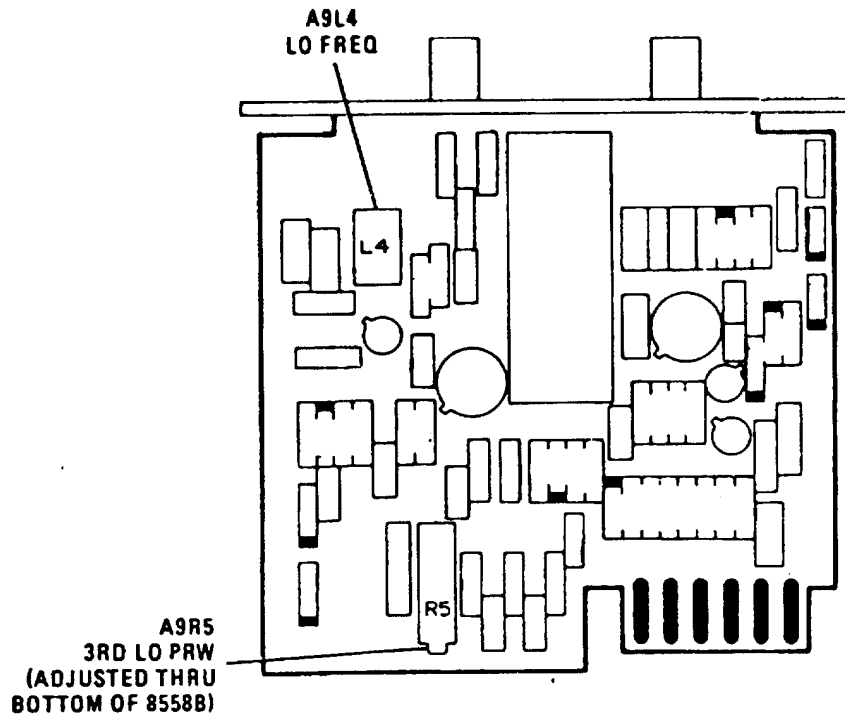

Figure 3. Adjustment location.
(3) Adjust A9R5 (fig. 3) to position signal peak to reference established in (1) above (R).
(4) Connect **CAL OUTPUT** to **INPUT 50Ω**.
(5) Center 280 MHz signal on TI display.
- (6) Adjust A9L4 (fig. 3) for a maximum signal amplitude indication on TI display (R).